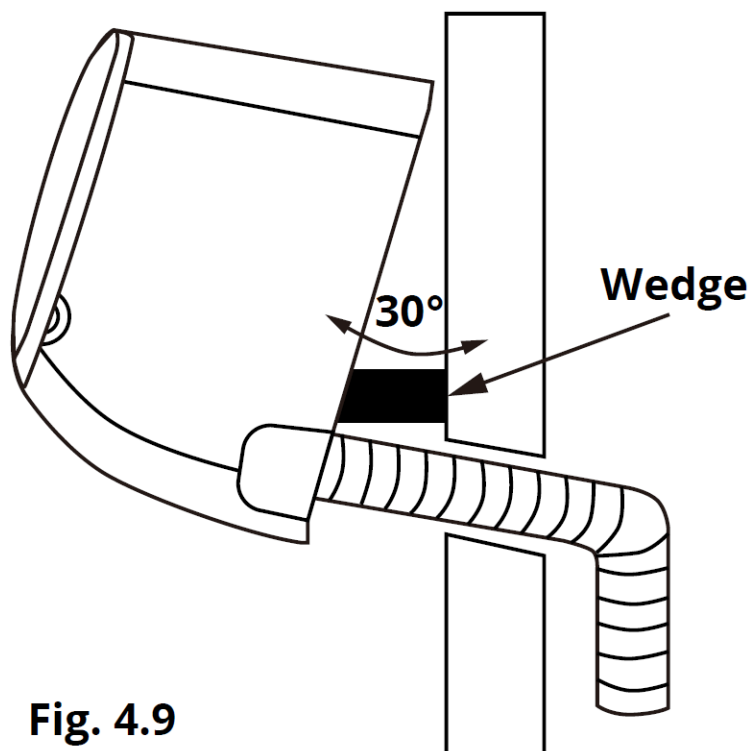

Fig. 4.9
2. Use a bracket or wedge to prop up the unit, giving you enough room to connect the refrigerant piping, signal cable, and drain hose. Refer to Fig. 4.9 for an example.